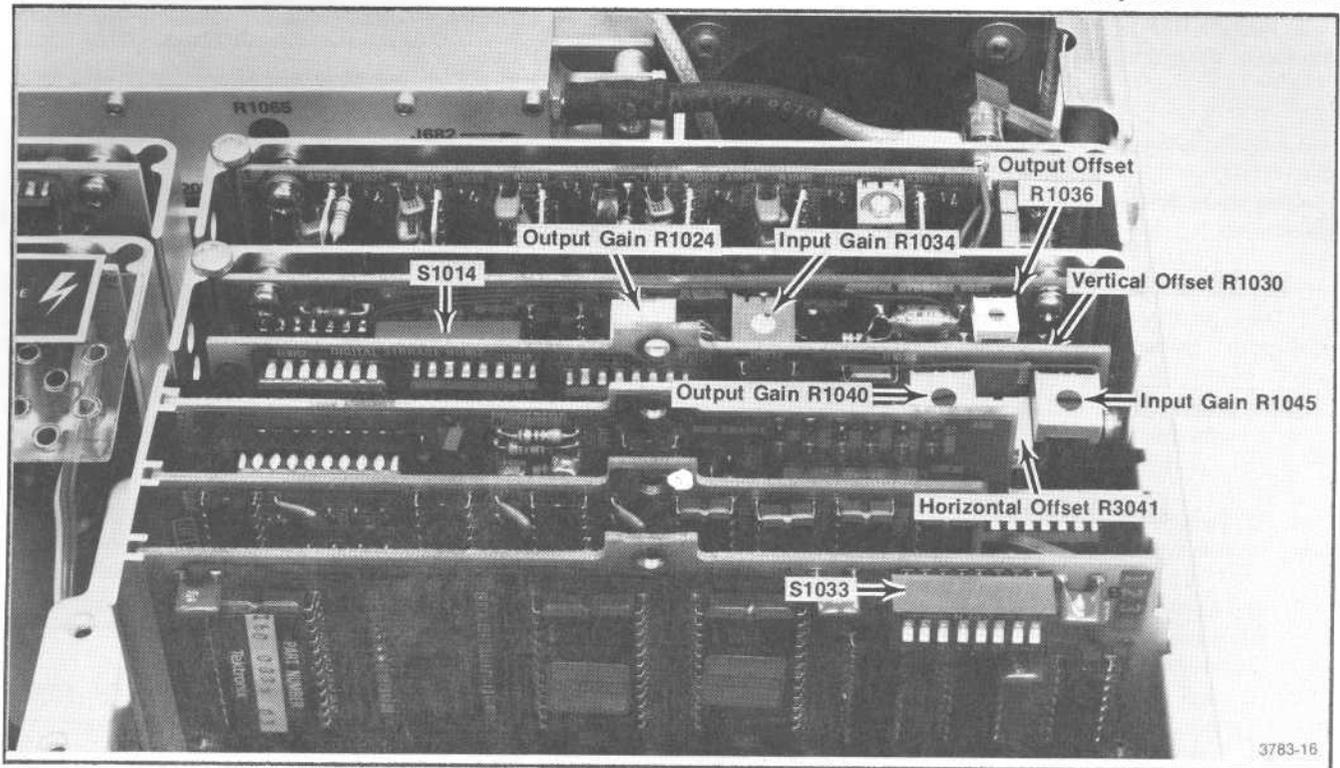

Fig. 3-42. Digital Storage adjustment locations.
1) adjust Horizontal Offset, R3041 (Fig. 3-42), so the left edge of the cursor is at the left edge of the crt (about 0.25 division over-span from the left graticule line);
2) adjust Output Gain, R1040 (Fig. 3-42), so the right edge of the cursor is at the right edge of the crt;
3) alternately switch the VIEW A (Digital Storage) on and off while adjusting Input Gain, R1045 (Fig. 3-42), so the storage signal at the right edge tracks with the non-store signal.
1) output Gain R1024 and Output Offset R1036 (Fig. 3-42) are adjusted at the factory in the 496P only (the alternate procedure follows). These adjustments should not be changed; however, if they are disturbed, center these adjustments and center Input Gain R1034 before proceeding;
3) using a signal near the bottom of the display, adjust Vertical Offset R1030 (Fig. 3-42), so the stored display is the same amplitude as the non-store signal;
5) adjust Input Gain R1034 (Fig. 3-42), so the stored display of the high amplitude signal is the same as the non-store display;
f. Adjust the following (Fig. 3-42) to match the step waveform to the graticule: